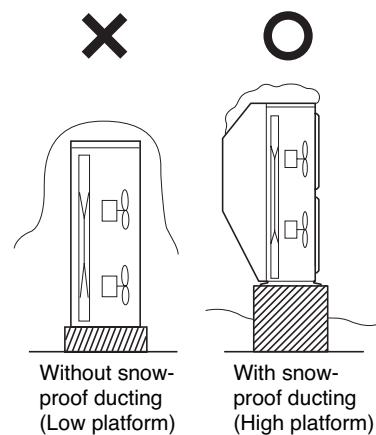

Fig. 2-6
- (1) The platform should be higher than the max. snow depth. (Fig. 2-6)
- (2) The 2 anchoring feet of the outdoor unit should be used for the platform, and the platform should be installed beneath the air intake side of outdoor unit.
- (3) The platform foundation must be firm and the unit must be secured with anchor bolts.
- (4) In case of installation on a roof subject to strong wind, countermeasures must be taken to prevent the unit from being blown over.